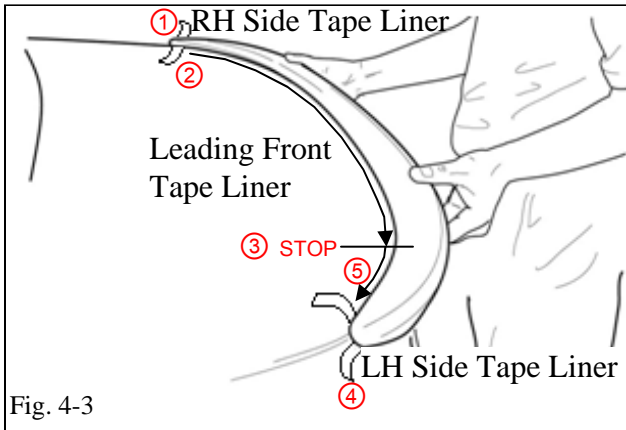

Fig. 4-3
- (c) Press spoiler into place seating the plastic clips into the 8.5 mm holes. (Fig. 4-3)
- (e) If there is a gap at the trailing edge of the spoiler, gently push the spoiler forward and remove either the LH or RH side tape liner from either side of the spoiler ①. Next, begin removing the leading front tape liner from the same side the side tape liner was removed ②. Apply light pressure as you remove the tape liner. Continue removing the leading front tape liner until you reach $\frac{3}{4}$ of the way across the spoiler and stop ③. Now remove the final side tape liner ④. Remove the remaining leading front tape liner ⑤. Reference Fig. 4-3 as an example.
- (g) Open the trunk lid and install the two (2) M6 nuts to the studs. Torque the M6 nuts to 53 lbf-in (5.9Nm).